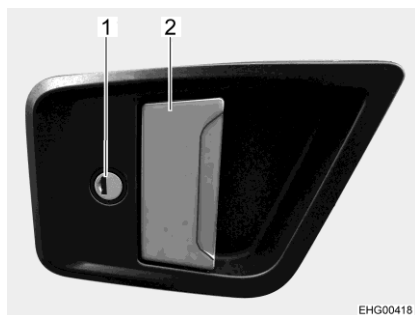

Fig. 57 Door lock (conversion door, outside)
- Insert the key into locking cylinder (Fig. 57,1) and turn until the door lock is unlatched.
- Pull on the door handle (Fig. 57,2). The door is open.
- Insert the key into locking cylinder (Fig. 57,1) and turn until the door lock is engaged.